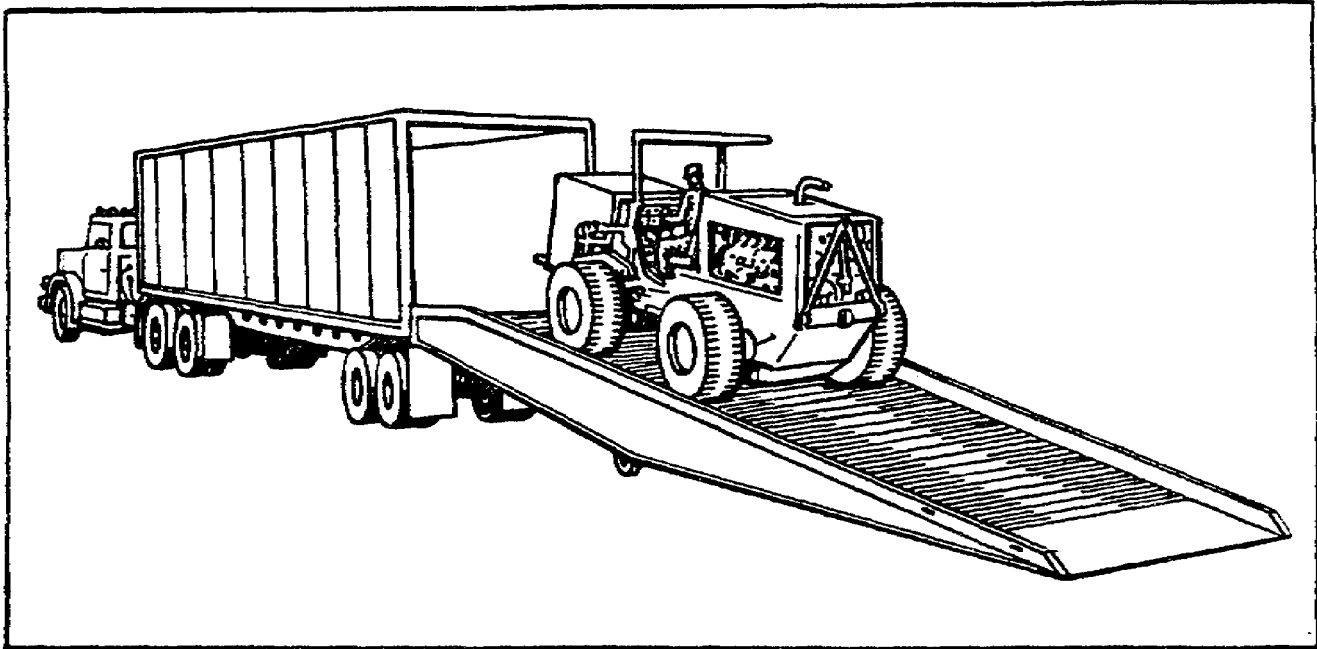

Figure 1-12. Mobile Loading Ramp.
**Mobile Loading Ramp.** The mobile loading ramp (figure 1-12) simplifies stuffing and unstuffing MILVAN containers while the container is still secured to the truck carrier. The ramp is mounted on wheels with a tow hitch, making it movable with a towing vehicle. It is 36 feet long and 96 inches wide, and its height is adjustable from 46 inches to 65 inches. It weighs 6,000 pounds and will support a maximum weight of 16,000 pounds. The mobile loading ramp is ideal for use with the 4,000-pound RTFL, because the ramp will not be overloaded. The RTFL weighs 9,725 pounds; and with a maximum load of 4,000 pounds, the total weight is 13,725 pounds.